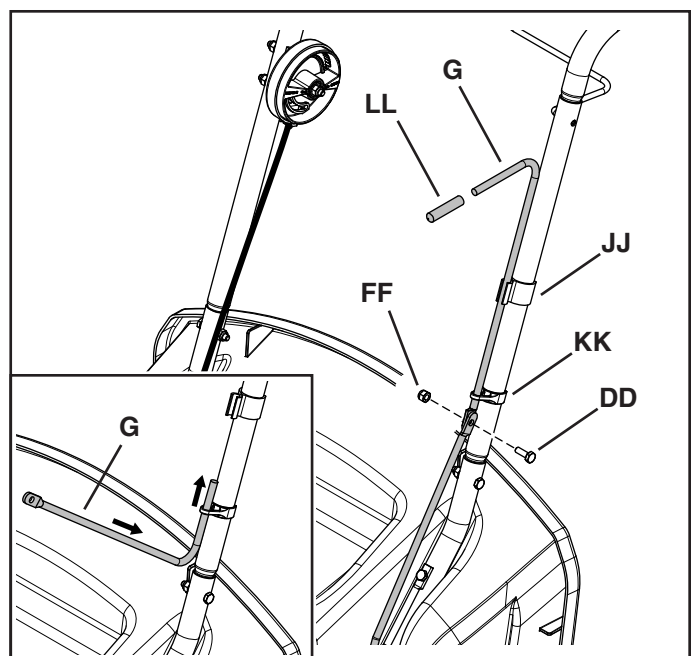

**FIGURE 9**
**STEP 9: (SEE FIGURE 9)**
- Attach the push rod clamp (JJ) and the eye clamp (KK) to the right side of the handle tube. You may need to gently tap the clamps into the holes in the tube with a hammer.